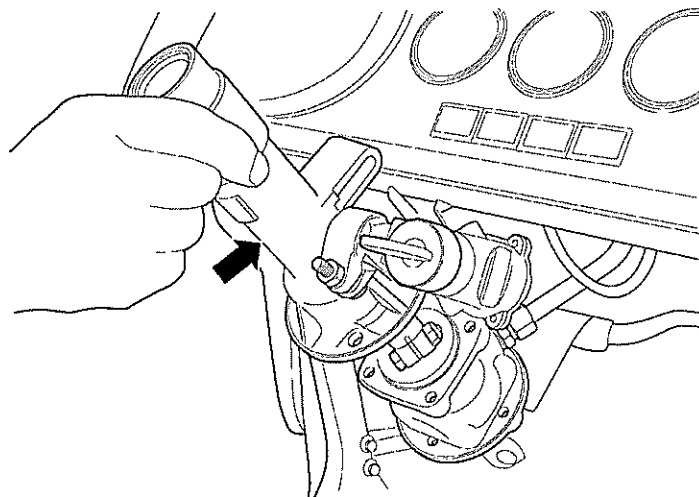

Fig 4 Removing steering spindle housing
- 10.6 Turn key in ignition lock to position 1 and remove steering spindle housing (see Fig 4).